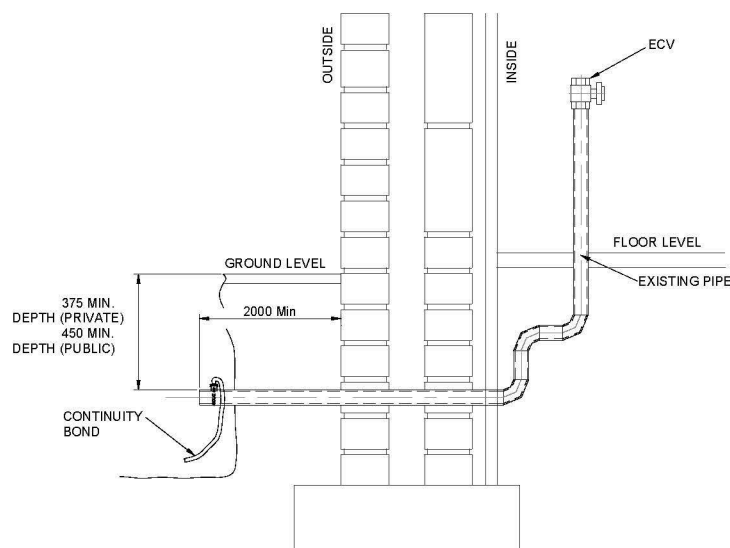

Figure B4 - Cut off service for Serviflex technique
2. Undertake an excavation on the line of the service pipe, to allow for the cut out and removal of a section of the metallic pipe. (Figure B4) accordance with Chapter A.